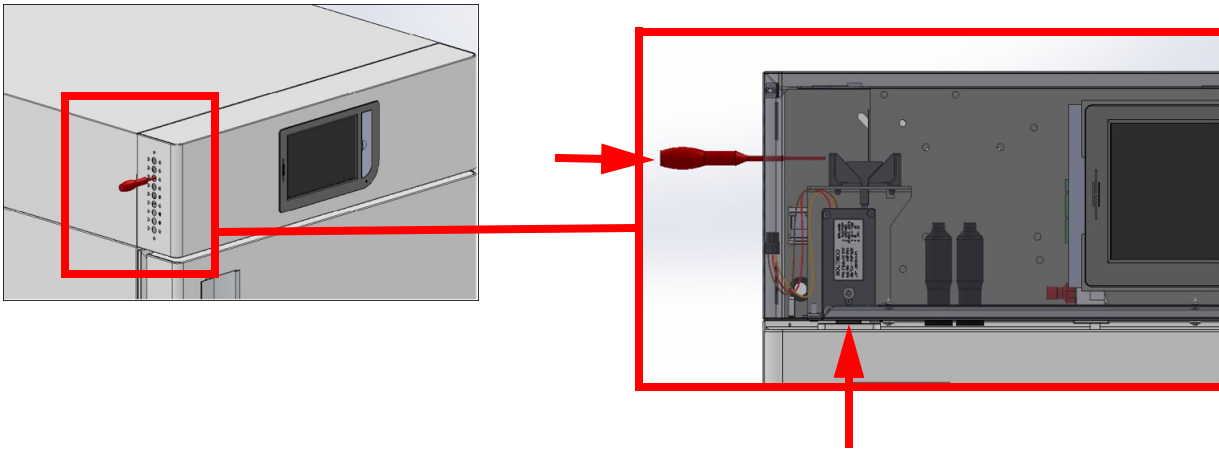

Figure 23. Key position to open the door manually in equipment with one chamber
- **One chamber equipment:** Insert the screw driver in dedicated slot placed on the front panel side in accordance with the door handle position. In order to be able to open the door, it is necessary to hold the release lever pushed. By stopping pushing, the mechanism door will be locked again. (Figure 23).